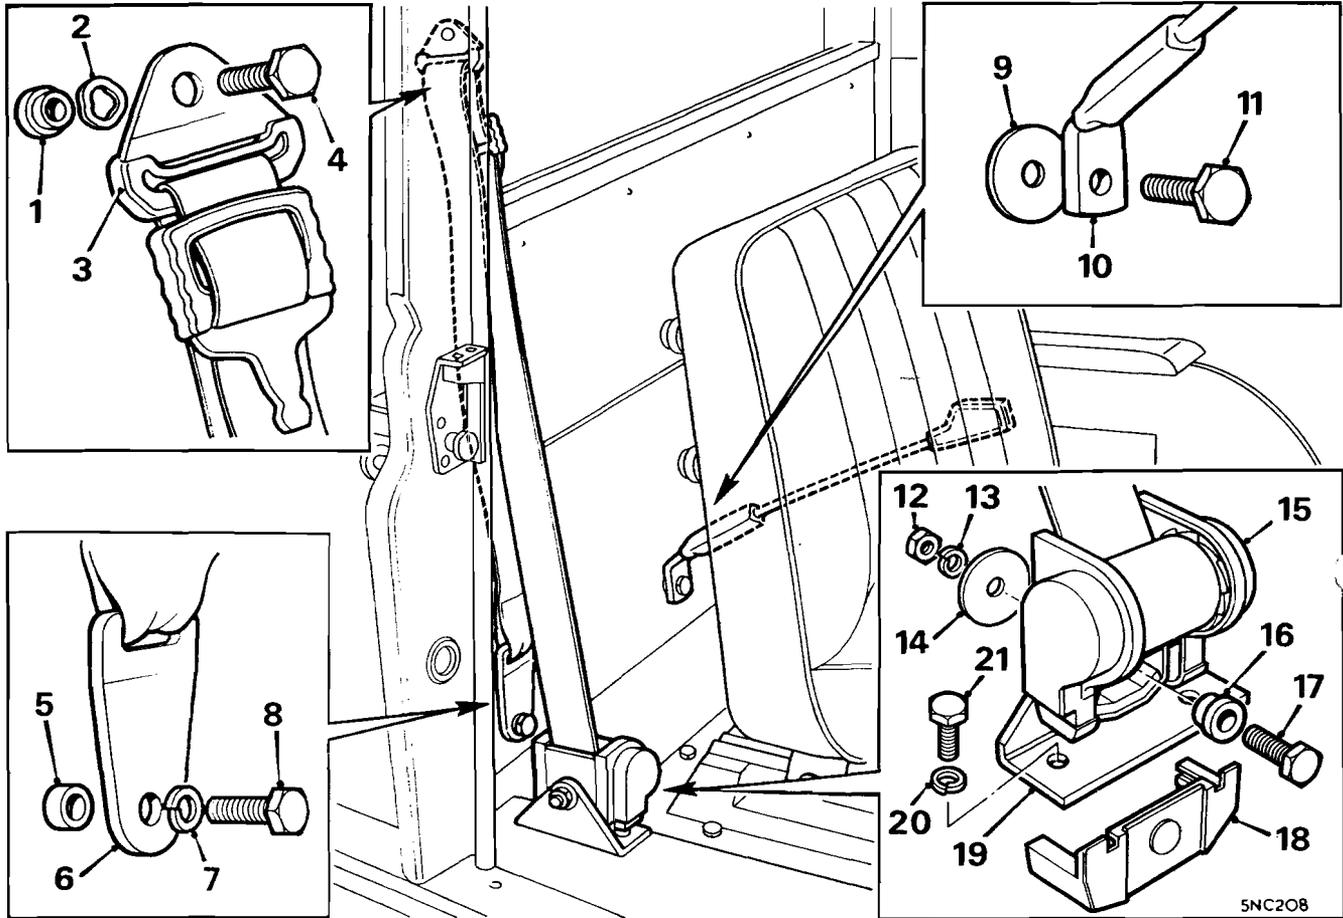

Fig. O.21
- (8) Reverse the order of the removing procedure, noting the following:
- (b) The belt brackets, reel assemblies, and buckle units must be refitted with their component parts as shown in Fig. O.21.